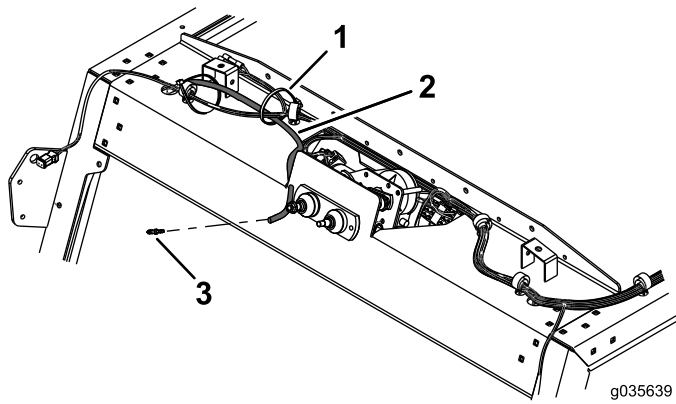
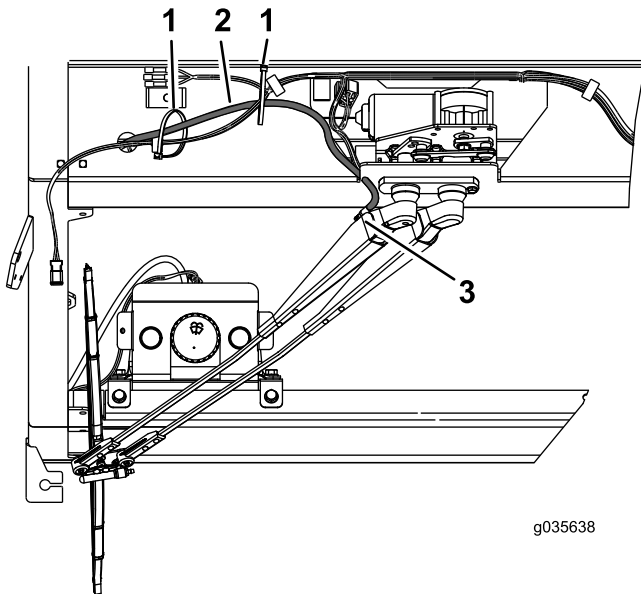

Figure 10
Figure 11
7. Install the hose barb into the hose at the pump motor and connect it to the wiper arm (Figure 10 and Figure 11).
8. Secure the hose to the wire harness with the cable ties as shown in Figure 11.